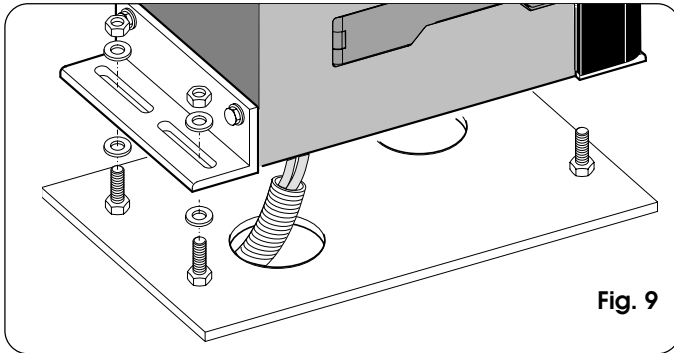
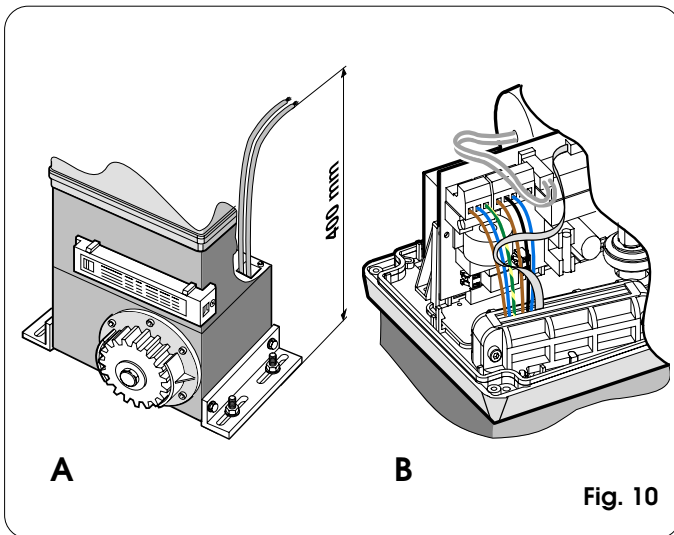

Fig. 9
Fig. 10
- 3) Place the operator on the plate, using the supplied washers and nuts as shown in Fig. 9. During this operation, route the cables through the duct inside the lower half-casing of the operator (Fig.10 - Ref. A). To access the electronic equipment, route the cables through the appropriate hole, using the supplied rubber cable-clamp. Make absolutely sure to unsheath all the cables so that the clamp holds single cables only (Fig.10 - Ref. B).